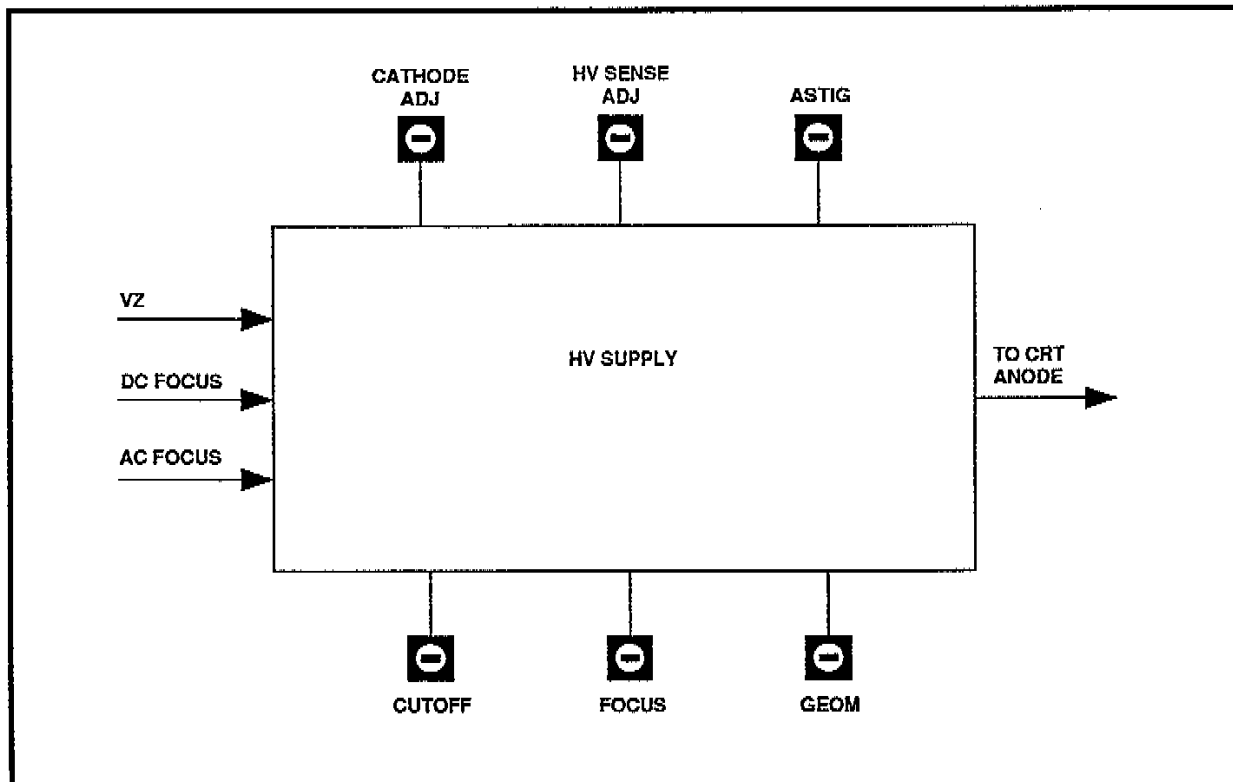

Figure 5-15. A23 High-voltage Module block diagram.
Refer to Figure 5-15. The High-voltage module accepts the low-level AC and DC focus signals (ACFOC and DCFOCUS) from the Display Amplifiers module, amplifies, level-shifts, and sums them together to form the FOCUS signal, which sets the potential on the focus barrel in the CRT. It also receives the grid drive signal (VZ) from the Display Amplifiers module, which it level-shifts and references to the cathode potential.